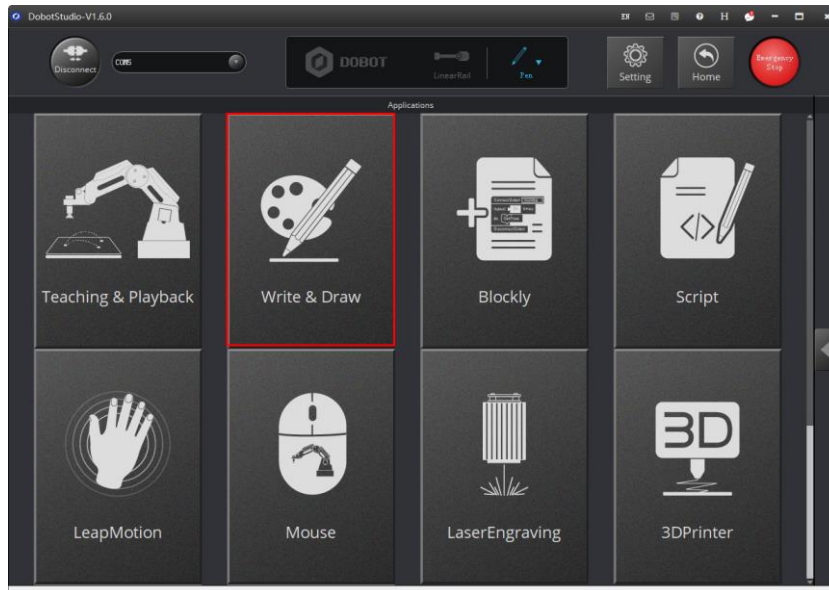

Figure 5.65 Click Write & Draw
- Step 3** Click **Write & Draw** module function, as shown in Figure 5.65.